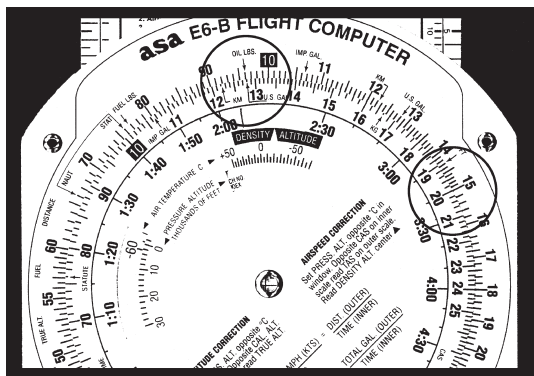

Figure 12
2. Read 15 pounds on the outer scale opposite of 2 gallons on the middle scale. See Figure 12.